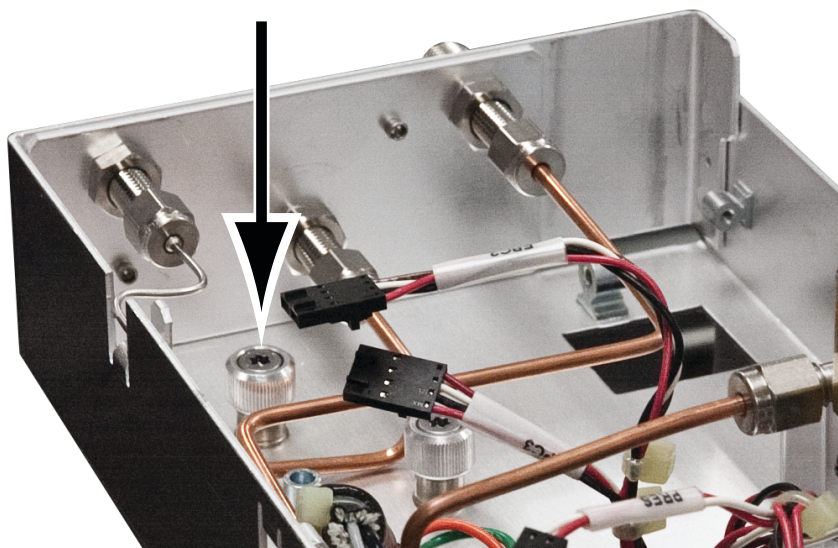

Figure 7 Overhead view of the back thumbscrew securing the pneumatics assembly
- 7 Completely loosen the T-20 Torx captive thumbscrew at the back of the pneumatics assembly (Figure 7).